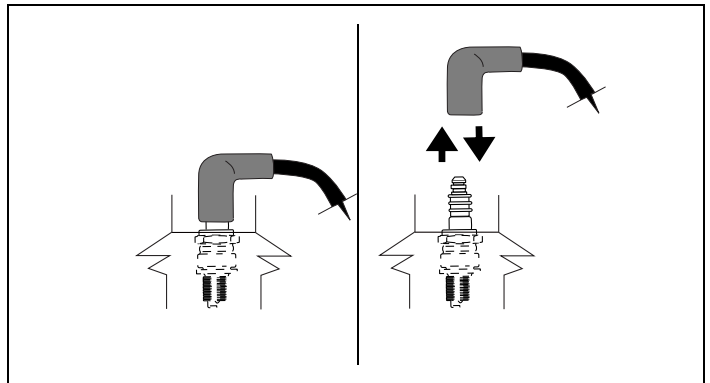

Figure 3. Disconnecting/Connecting Spark Plug
- Disconnect spark plug wire and keep it away from spark plug. See Figure 3.